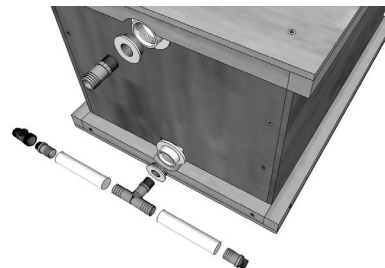

Fig. 8 – Fittings assembly- *Tape threads*
- d. **Apply Teflon tape** liberally to threaded fittings and install fittings so 'T' fitting for inlet/outlet is at bottom and 1" thread to barb for overflow/vent is at top opening of liner. (Straight fitting included; you can pick up elbow or 'T' fittings at most home products stores for a couple bucks) (fig. 8)